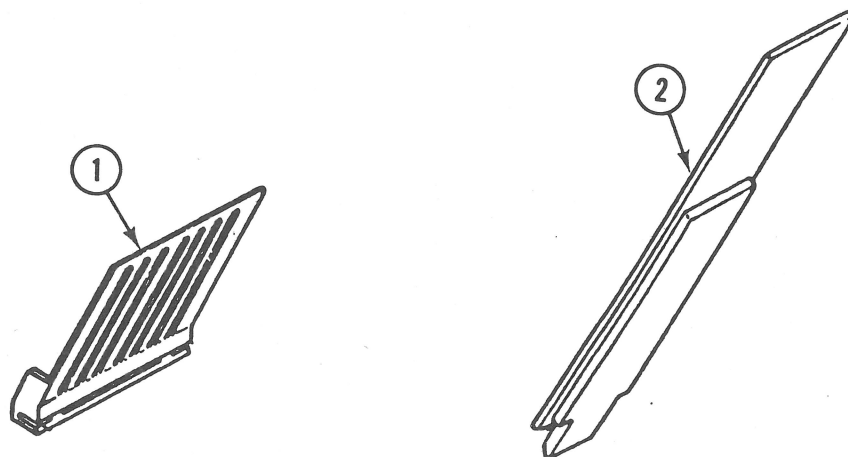

FIGURE 2
- SF-IPL.3 Forward Collator Assembly (Figure 2)
❑ FORWARD COLLATOR ASSEMBLY (Figure 2)